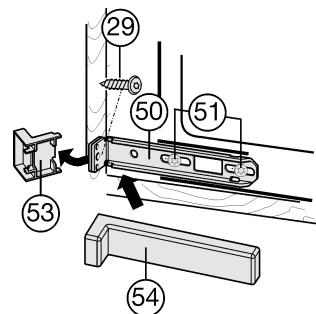

Fig. 17
- ▶ Loosen the screws Fig. 17 (51) a little.
- ▶ Tightly screw the bottom mounting bracket Fig. 17 (50) to the unit wall using Spax screw Fig. 17 (29) Ø4x19.
- ▶ Break off the projecting end of the cover Fig. 17 (53). It is no longer required.
- ▶ Tighten the screws Fig. 17 (51).
- ▶ Put the cover Fig. 17 (54) on the bottom mounting bracket Fig. 17 (50).